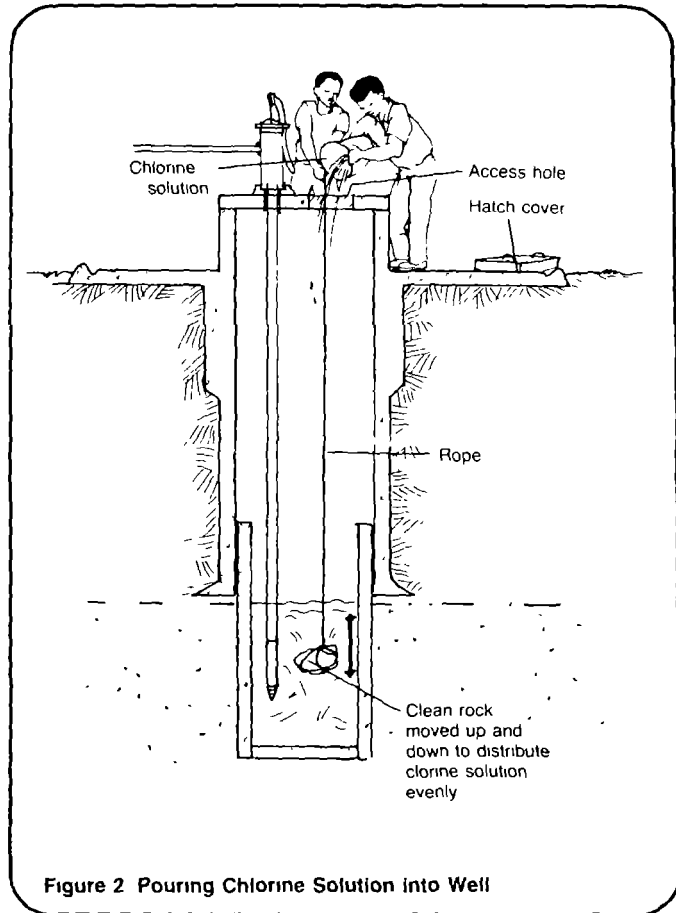

Figure 2 Pouring Chlorine Solution into Well
6. Calculate the amount of chlorine solution needed to disinfect the well. Prepare the solution and pour it through the access hole in the cover, making sure that the solution covers as much of the surface of the water in the well as possible. See Figure 2.